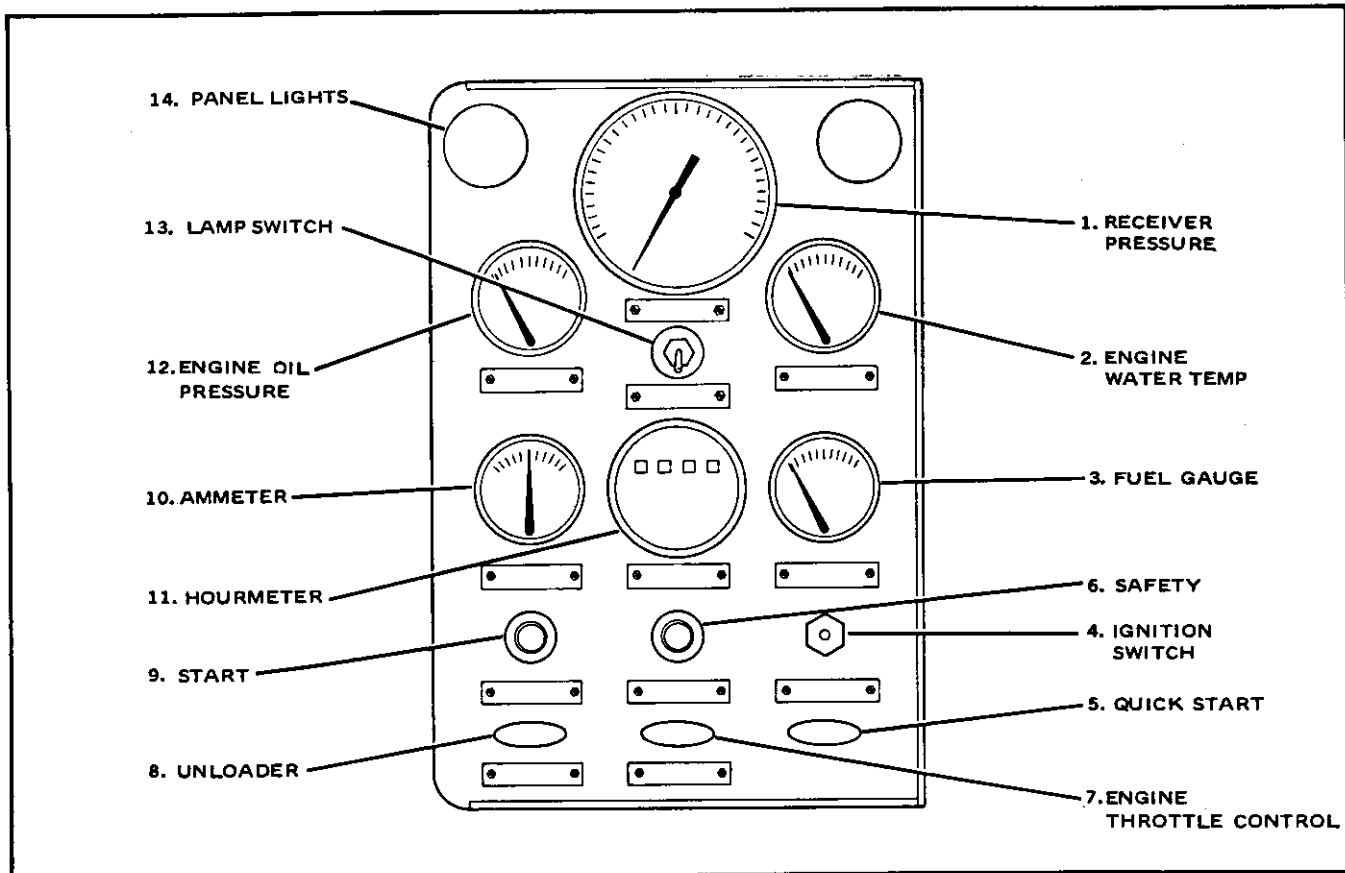

Figure 2-2. Instrument Panel Assembly
2-3. OPERATING CONTROLS AND INDICATING INSTRUMENTS. (Refer to figure 2-2).
d. Unlock, pull out and lock UNLOADER control (8, figure 2-2).
e. Unlock, pull out and lock ENGINE THROTTLE CONTROL (7, figure 2-2).
f. In cool weather, below 40°F (4.4°C), unscrew cap of cold weather starting aid and place ether cylinder in holder. Hand tighten cylinder. Make certain actuating lever is free to operate. Charge shot valve by pulling QUICK START control (5) out for 3 seconds. Do not press QUICK START control in until after START (9) and SAFETY (6) switches are depressed and cranking has begun. While cranking engine press QUICK START control (5) in.
- g. Pull IGNITION SWITCH (4, figure 2-2) out.
- h. Press and hold SAFETY switch (6, figure 2-2).
- i. Press and hold START switch (9, figure 2-2). Release START switch when engine is running. (Actuate cold weather starting aid handle as necessary).
- j. Continue holding SAFETY switch until ENGINE OIL PRESSURE gauge (12, figure 2-2) indicates above 15 psi and release.
- k. Allow engine to run at idle until ENGINE WATER TEMP. gauge (2, figure 2-2) indicates approximately 140°F.
RECEIVER PRESSURE (1, figure 2-2)	90 to 100 psig
- b. Unlock, pull out and lock UNLOADER control (8, figure 2-2).
- d. Press IGNITION SWITCH (4, figure 2-2) in.